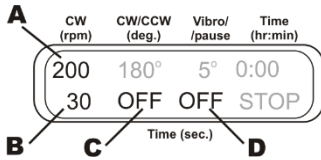

Figure 3.
6.9.1. **Rotational motion.** Set the speed (40-1000 rpm, fig. 3/A) and time (1-250 s, fig. 3/B) of rotational motion. Turn off reciprocal and vibro motions by setting their motion times to zero (indications OFF, fig. 3/C and 3/D).